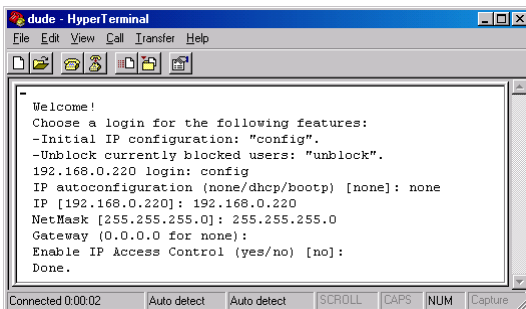

Figure 9 The Hyperterminal
5. Click OK. The Hyperterminal appears. See Figure 9.